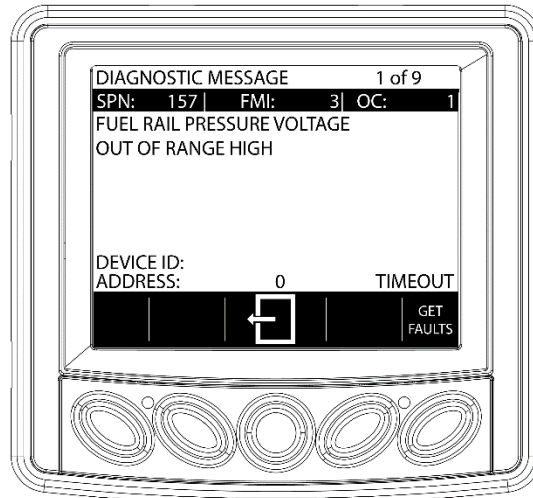

Figure 3-21
- 3.5.9.6. See Figure 3-21 for an example of a "Stored Faults" screen when there are stored faults. Press the "Arrow" (A&B) keys to scroll through all of the stored fault codes. Press the "Menu" (C) key once to return to the "Main Menu". Press again to return to the six-up display.